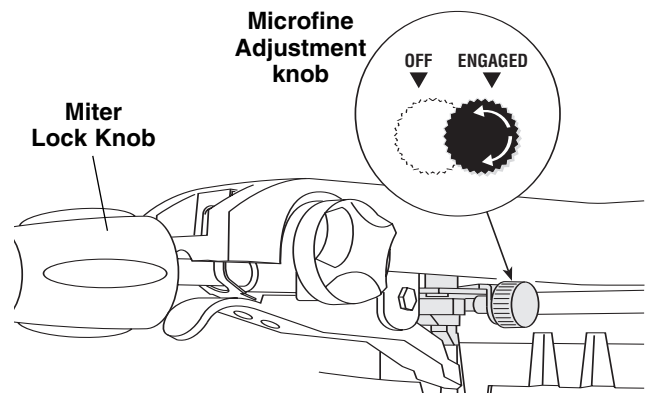

Figure 2. Microfine Adjustment System
3. Push the Microfine Adjustment knob forward to 'ENGAGED' position. This engages the system into the detent slot (Figure 2).